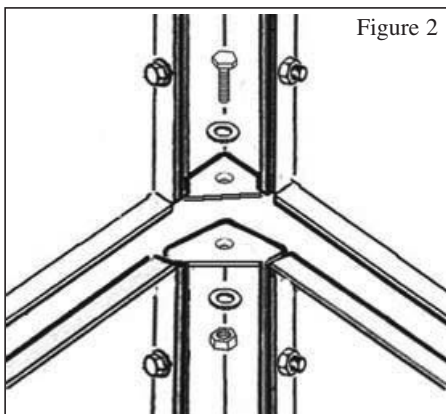

Figure 2
4. Secure all screws as shown in Figure 2.